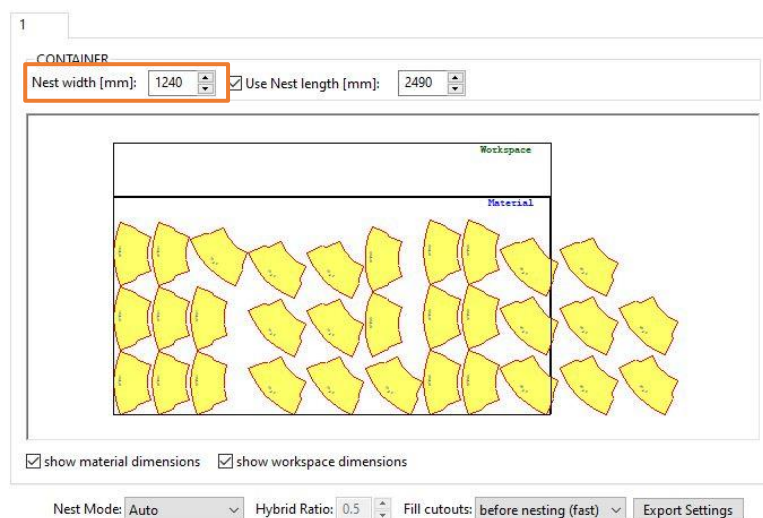

Figure 125
- For nesting our Bulkhead cuts the default settings are fine. In some cases we just need to adapt the nest width (Figure 125).